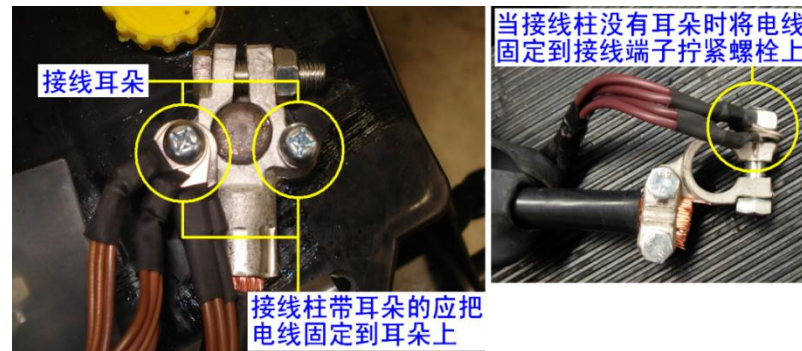

图10 电线在蓄电池接线柱连接
**注意：**如果蓄电池接线柱上带有专门用于外接电线的耳朵的话，应把电线接到耳朵上（见图10左图），如果接线柱没有耳朵，则应把电线接到接线柱拧紧螺栓上（见图10右图）。
Note: If there are special ears on the terminal post of the battery specifically designed for external wiring, the wire should be connected to these ears (refer to the left image in Figure 10). If there are no ears on the terminal post, then the wire should be connected to the tightening bolt on the terminal post (refer to the right image in Figure 10).